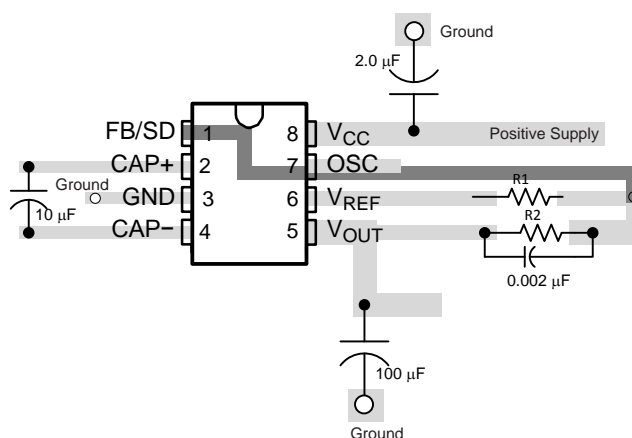

Figure 31. Basic Inverter/Regulator Layout
- Try to run the feedback trace as far from the noisy power or clocking traces as possible. In the case that the OSC pin is not being used, as in Figure 31, the FB trace can be ran on a lower layer under the OSC pin. When OSC is being utilized by a noisy clocking signal, it is recommended to run the FB trace on a lower layer through the Vref pin.